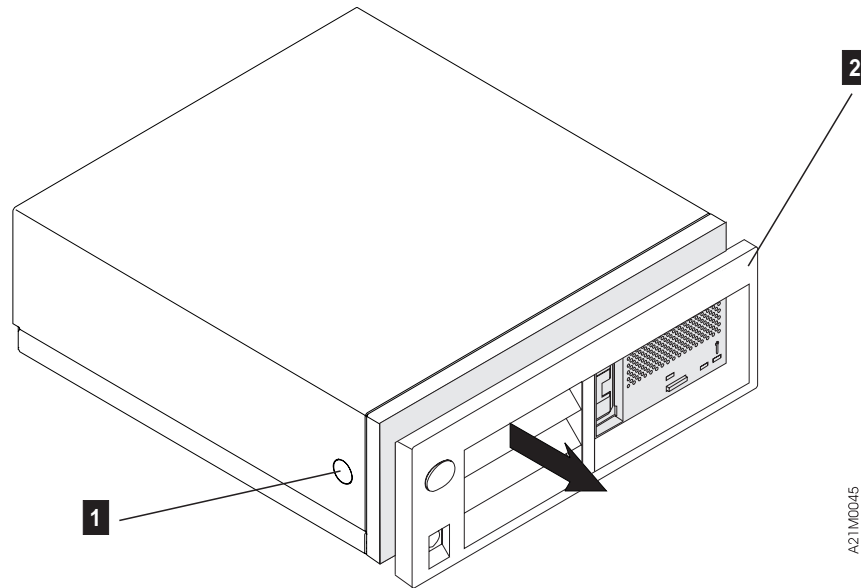

Figure 5. Removal of Model B00 Front Cover
2. Remove the front cover to expose the drive with its drive cover by pressing the buttons on each side of the front cover and pulling forward (see **1** and **2** in Figure 5 on page 19).
**Note:** There is a corresponding tab on the opposite side of the chassis to the one shown as **1** in Figure 5.